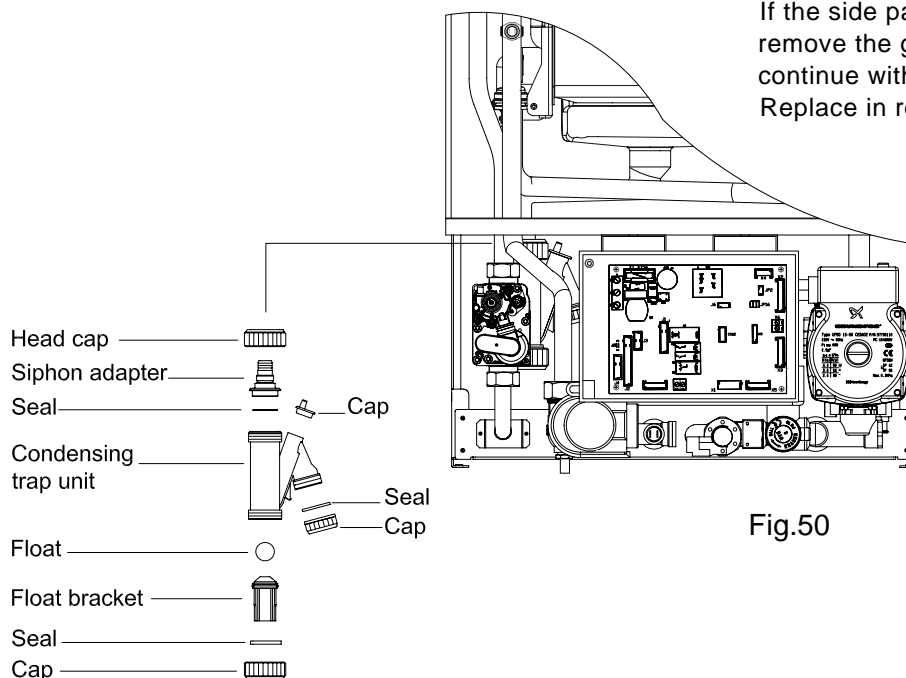

Fig.50
8.22 TO CLEAN AND REMOVE/REPLACE CONDENSING TRAP (Fig. 50)